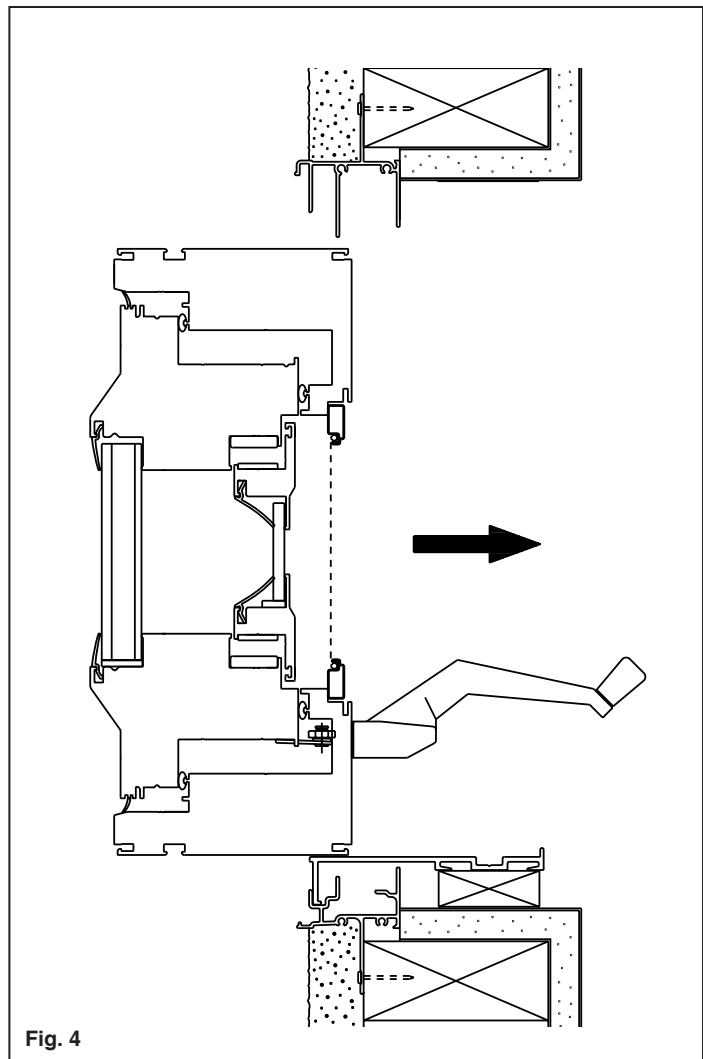

Fig. 4
A. Slide the new frame into the opening. See **Fig. 4**. Center frame between existing jambs and use shims to straighten and square frame. Wood filler